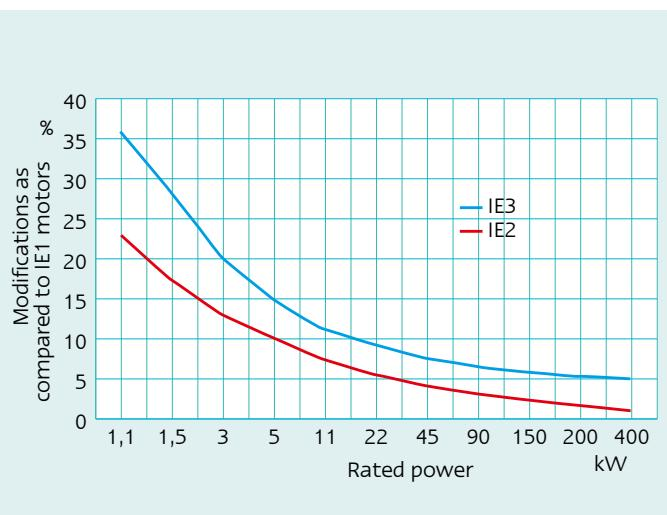

Figure 2: Change of starting current ratio
- Starting current ratio I_{start}/I_N (starting current/rated current) higher than that of IE1 motors: increase by up to 35 % for small motors (< 3 kW), by at least 3 % to 15 % for medium sized motors and by less than 7 % for motors of 75 kW and above (values taken from Figure 2)